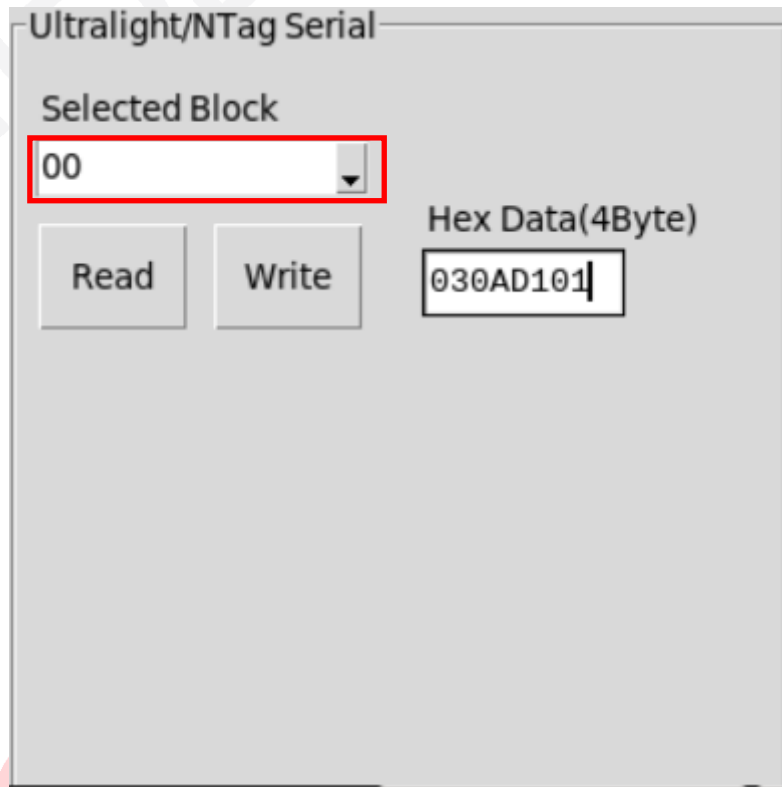

Figure 7.2-1 Select the page address
4. Result of response will show at LOG Block text view, as shown in Figure 7.2-1.
2. Click “Selected Block” drop-down list to select the page address to be written, as shown in Figure 7.2-1.